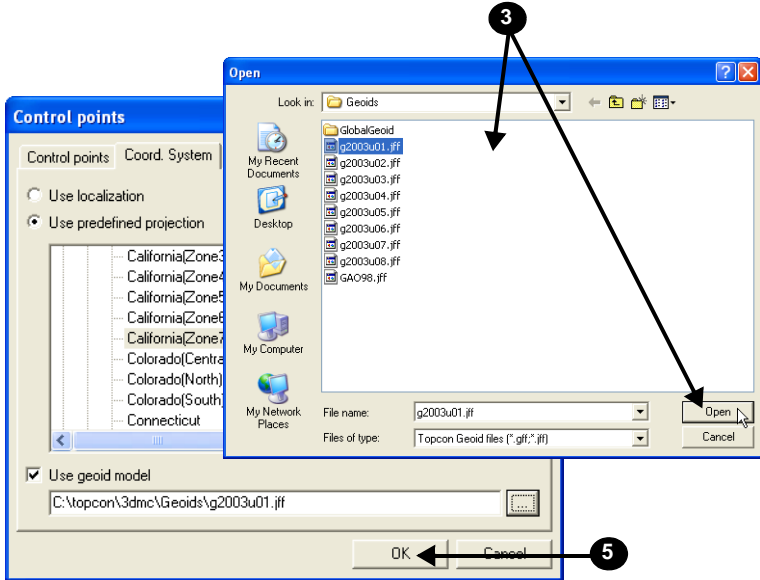

Figure 9-19. Apply Geoid File
3. Navigate to the location of the geoid file, select it and click **Open** (Figure 9-19).
4. Click **OK** to save the setting(s) and apply them to the project (Figure 9-19).